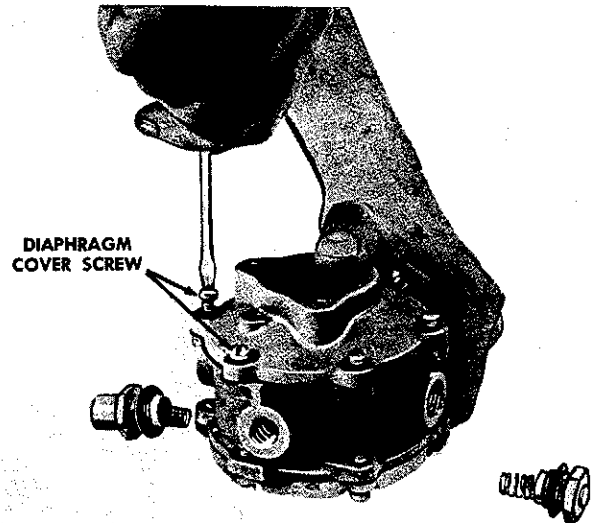

FIGURE 4
4. Remove the six assembly screws that secure the primary cover and diaphragm assembly to regulator body. Figure 4.